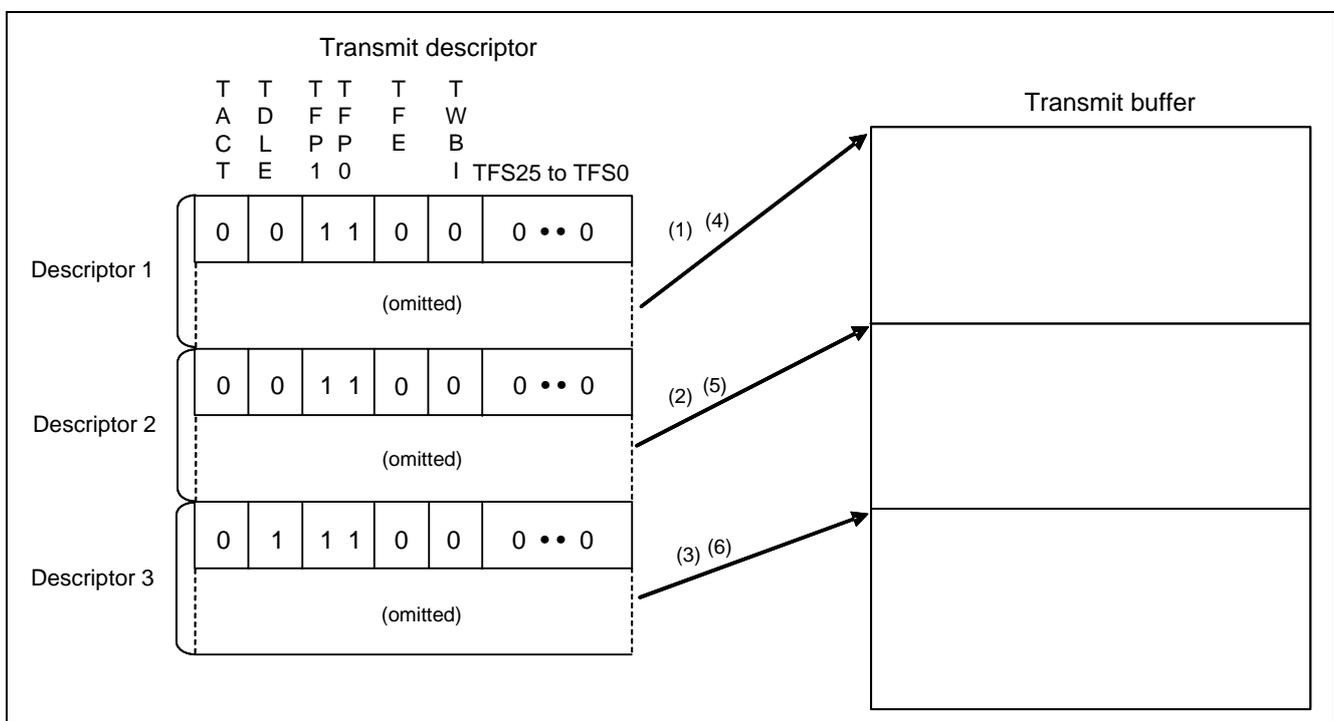

Figure 5 Relationship between 3 Transmit Descriptors and 3 Transmit Buffers
Figure 5 shows an example of using three transmit descriptors and three transmit buffers, allocating one frame per one descriptor. This example transmits one frame by a transmission request. The figure below simplifies the transmit descriptors as only TD0. Numbers shown in the figure indicates sequence to execute.
4. Set the data length of the transmit buffer corresponding to the said descriptor in the TBL bit, and specify the TBA bit as the starting address in the transmit buffer. (This step is not described in Figure 5.)